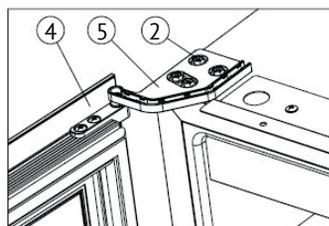

Figure 6
➔ Turn the door ④ 180 degrees, and insert the right lower hinge ⑤, screw tight M5*16 screws ② (Figure 6).